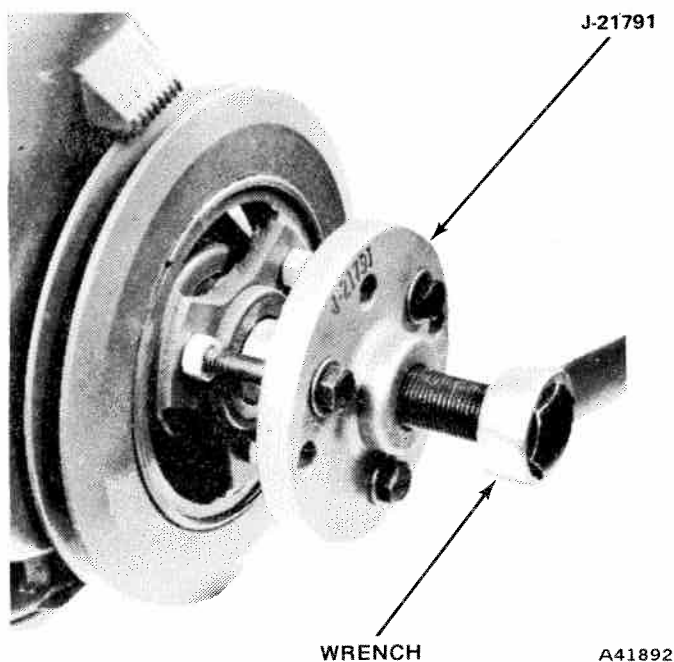

Fig. 1A-22 Vibration Damper Removal
- (1) Remove drive belt(s).
- (2) Remove three retaining capscrews and separate accessory pulley from vibration damper, if so equipped.
- (3) Remove the vibration damper retaining bolt and washer.
- (4) Use Vibration Damper Remover Tool J-21791 to remove damper from the crankshaft as shown in figure 1A-22.